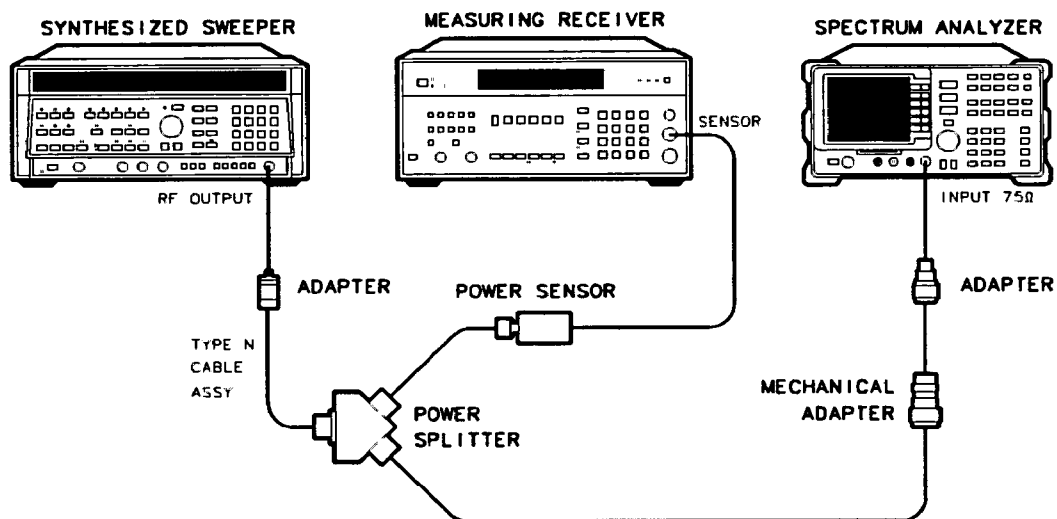

Figure 3-3.
2. Connect the equipment as shown in Figure 3-3.